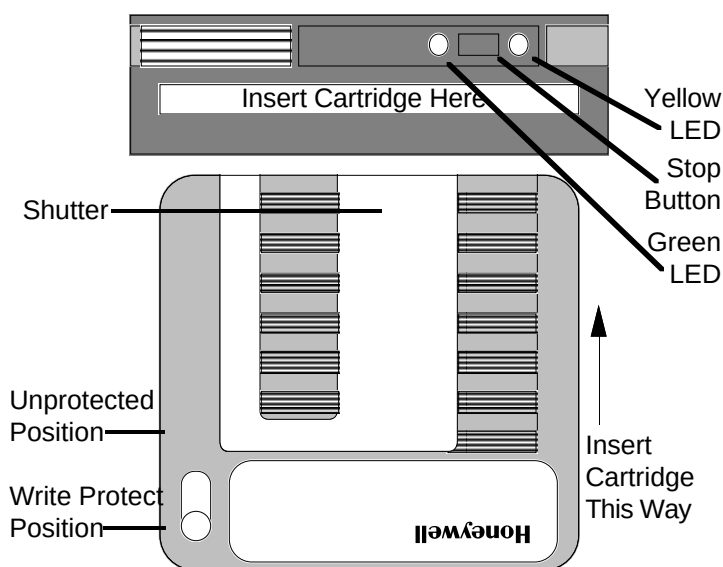

Figure 1-4 — Cartridge Drive and Disk
2. The cartridge is inserted into the drive shutter first. The cartridge edge containing the shutter faces toward the stop button on the front of the drive (see Figure 1-4). Interlocks in the system prevent improper cartridge insertion.
3. After loading a cartridge, the green indicator on the front of the drive, next to the stop button, blinks as the motor is coming up to speed. When the indicator stops blinking and stays lit, the drive is READY (see Figure 1-4).
The yellow LED flashes briefly as the drive reads initialization information from the disk. If the drive fails to initialize correctly, an error condition exists. If this occurs, reinsert the cartridge to ensure proper seating. If this does not correct the problem, the media may require reformatting or the drive may require service (see Figure 1-4).
4. To remove the cartridge, push the stop button. The green LED then begins to blink as the motor spins down. When the motor has stopped, the green LED turns off and the latch pin disengages. The cartridge can now be removed (see Figure 1-4).
To protect stored media (programs and data) on a cartridge from being accidentally erased, you must move the protect switch (lower left in Figure 1-4) to the write protect position.